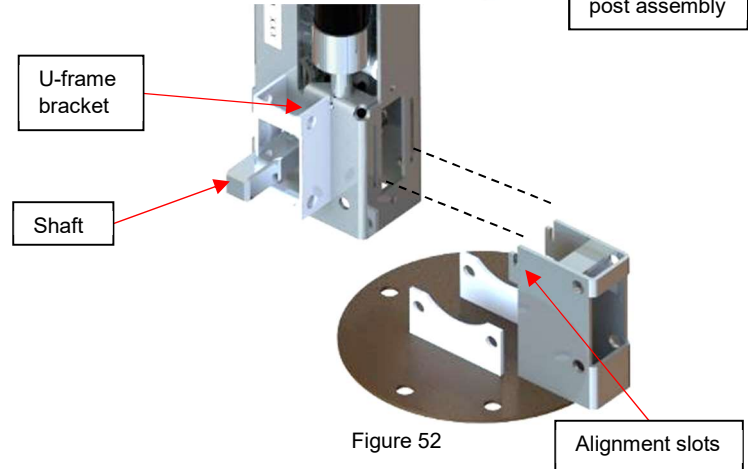
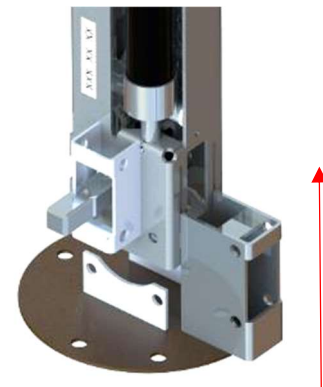

Figure 52
Figure 53
- Install a first foot bracket to its non-motor-side jack. Make sure to align the foot bracket on the right side of the U-frame shaft as shown. (Figure 52)
- Slide the alignment brackets of the foot in the alignment slots of the non-motor-side jack. (Figure 52 and Figure 53)
- Push upwards to lock in place. Ensure full contact is made along the bottom plate. Using a rubber mallet may help lock it in place. (Figure 53)
- For the right-hand non-motor-side jack assembly, repeat steps 3 to 6, putting the foot bracket on the left side at step 3. (Figure 52)